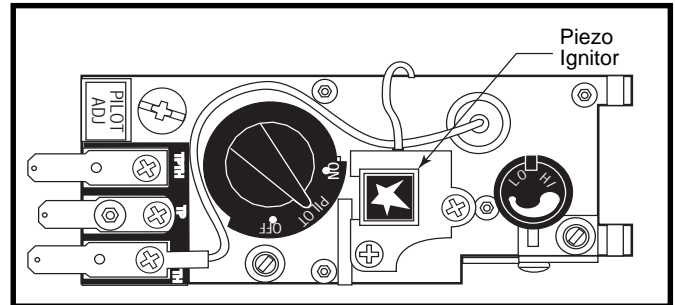

Fig. 20 UVS27R/Honeywell Control Valve in Pilot position.
4. Wait five (5) minutes to clear out any gas. If you then smell gas, STOP! Follow "B" in the safety information above on this panel. If you do not smell gas, go to the next step.
5. HONEYWELL: Turn knob on gas control counterclockwise  to "PILOT". Push in control knob all the way and hold in. Immediately light the pilot by pushing the button located directly to the right of the pilot knob. Continue to hold the control knob in for about one (1) minute after the pilot is lit. Release knob and it will pop back up. Pilot should remain lit. If it goes out, repeat steps 3 through 5. (Fig. 20)